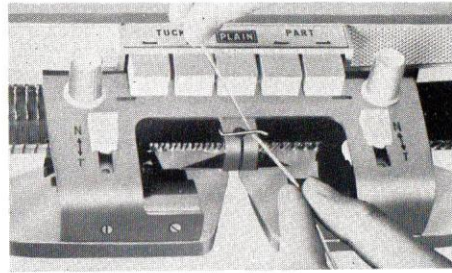

Fig. 2
- a) Put the yarn under the yarn holder spring. (See Fig. 2)